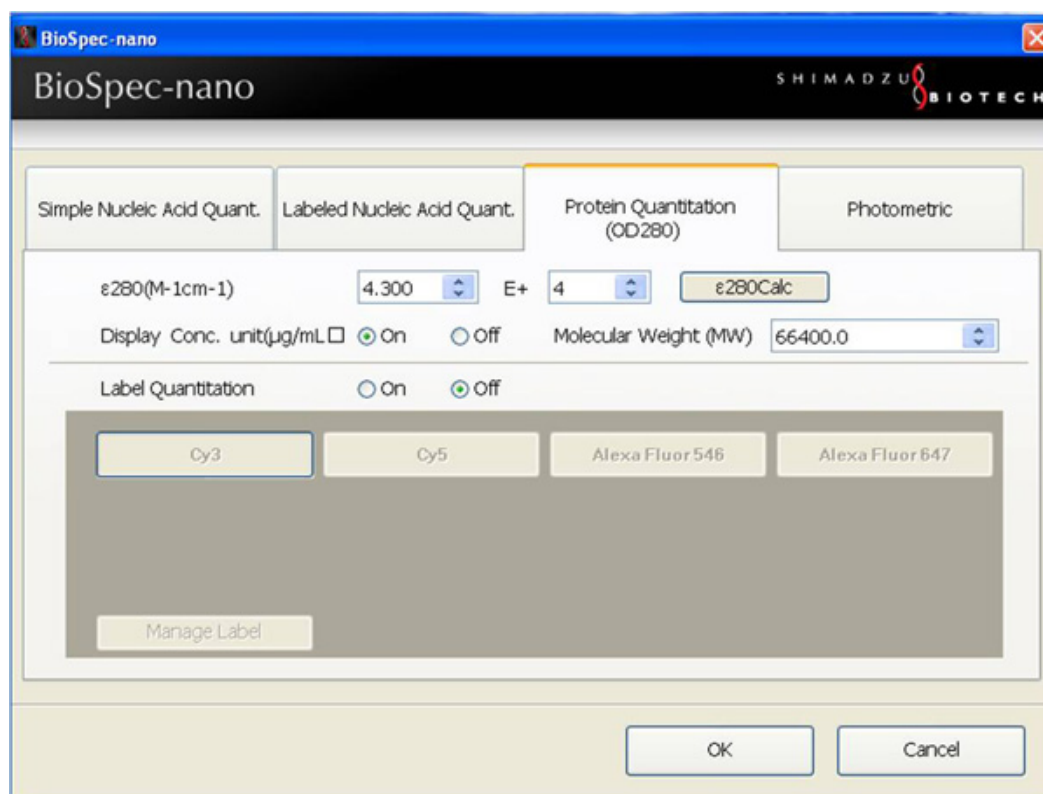

Figure 2. Analyte selection window for non labeled protein quantitation
1. Select Protein Quantitation tab (Figure 2).